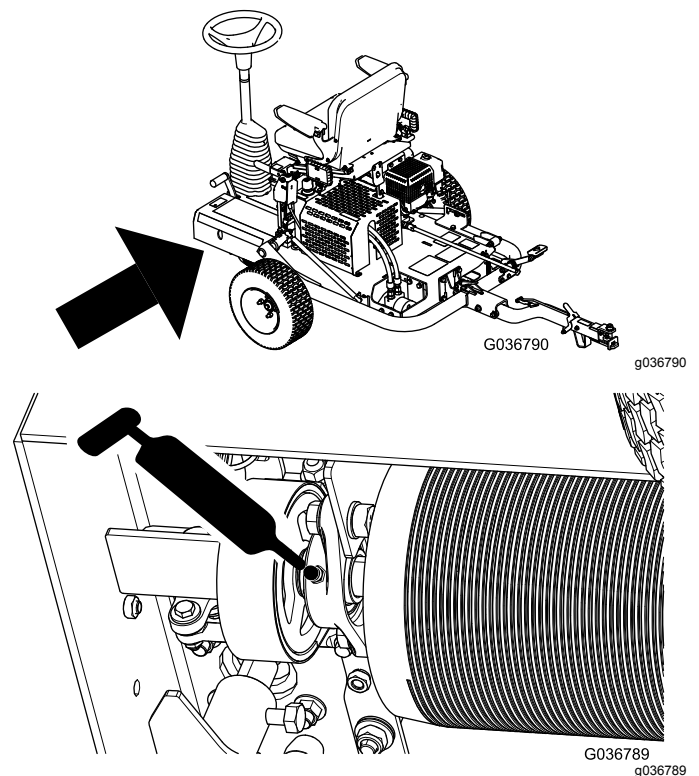

Figure 25
3. Pump grease into the grease fitting as shown in Figure 25.